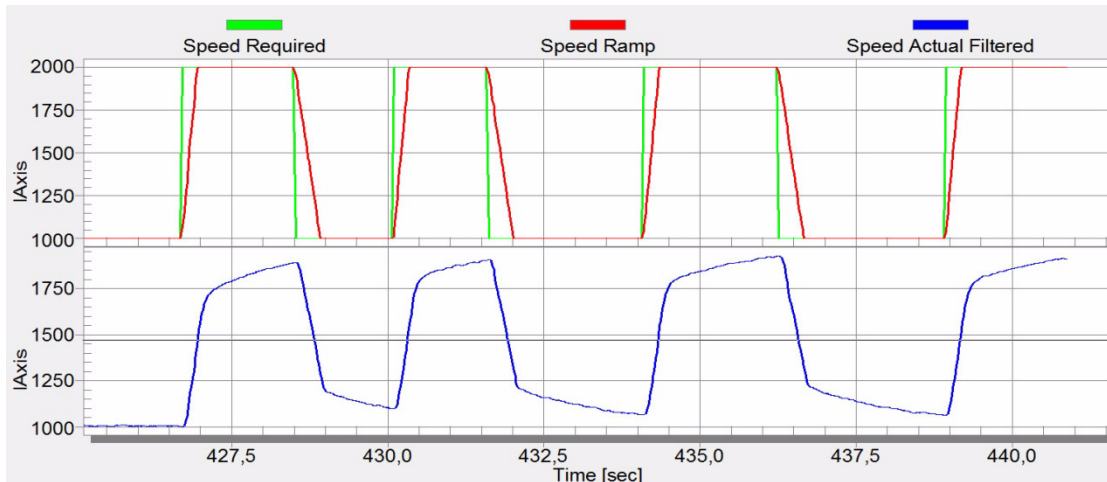

Figure 12. Speed Controller Response— SL_Ki value is low, *Speed Ramp* not achieved
6. Tune the loop bandwidth and attenuation until the required response is received. Example waveforms are shown in Figure 12 with the correct and incorrect settings of the current loop parameters:
- *SL_Ki* value is low, and *Speed Actual Filtered* does not achieve *Speed Ramp*, see Figure 12.